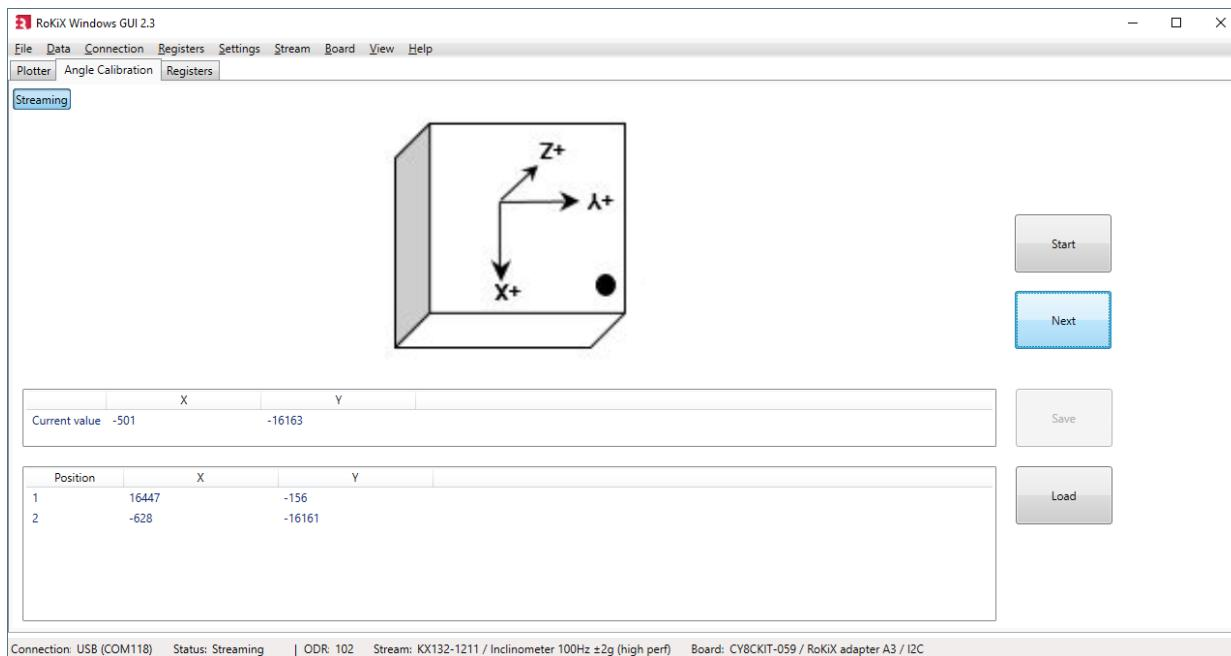

Figure 46. Angle Calibration. Position - 3
3. Click Next and hold the device still until the diagram changes to the 3rd position (Figure 46)